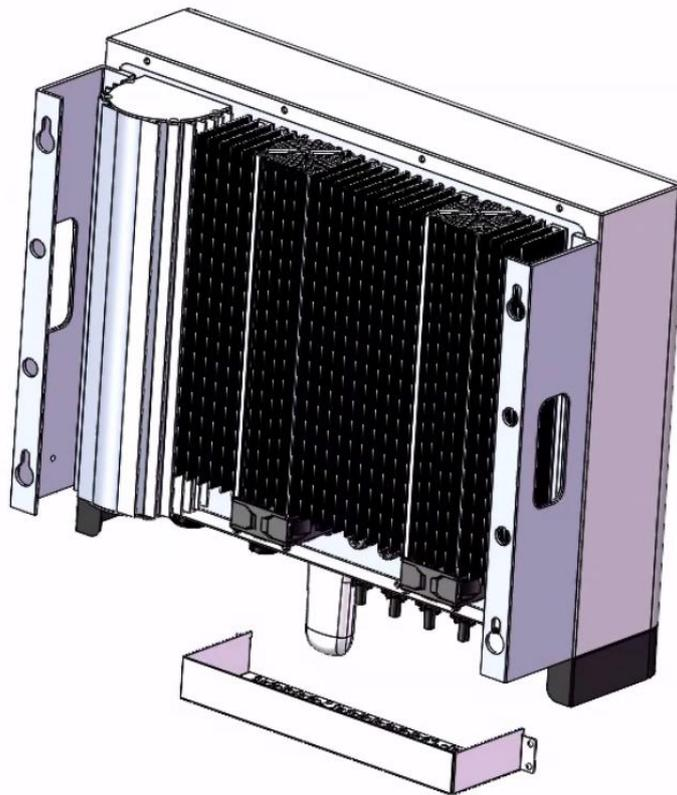

Figure 7-1 Remove the screws from the fan shield
Step 5: Loosen the screw fixing the fan shield, as shown in Figure 7-1
Step 6: Remove the fan shield, as shown in Figure 7-1